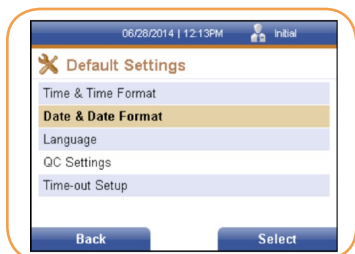

FIGURE 13
4. Using the numeric keypad, enter the desired information into the text fields, then press the right soft key to accept the changes made, or the left soft key to discard any changes. Either returns the user to the previous menu (Figure 13).